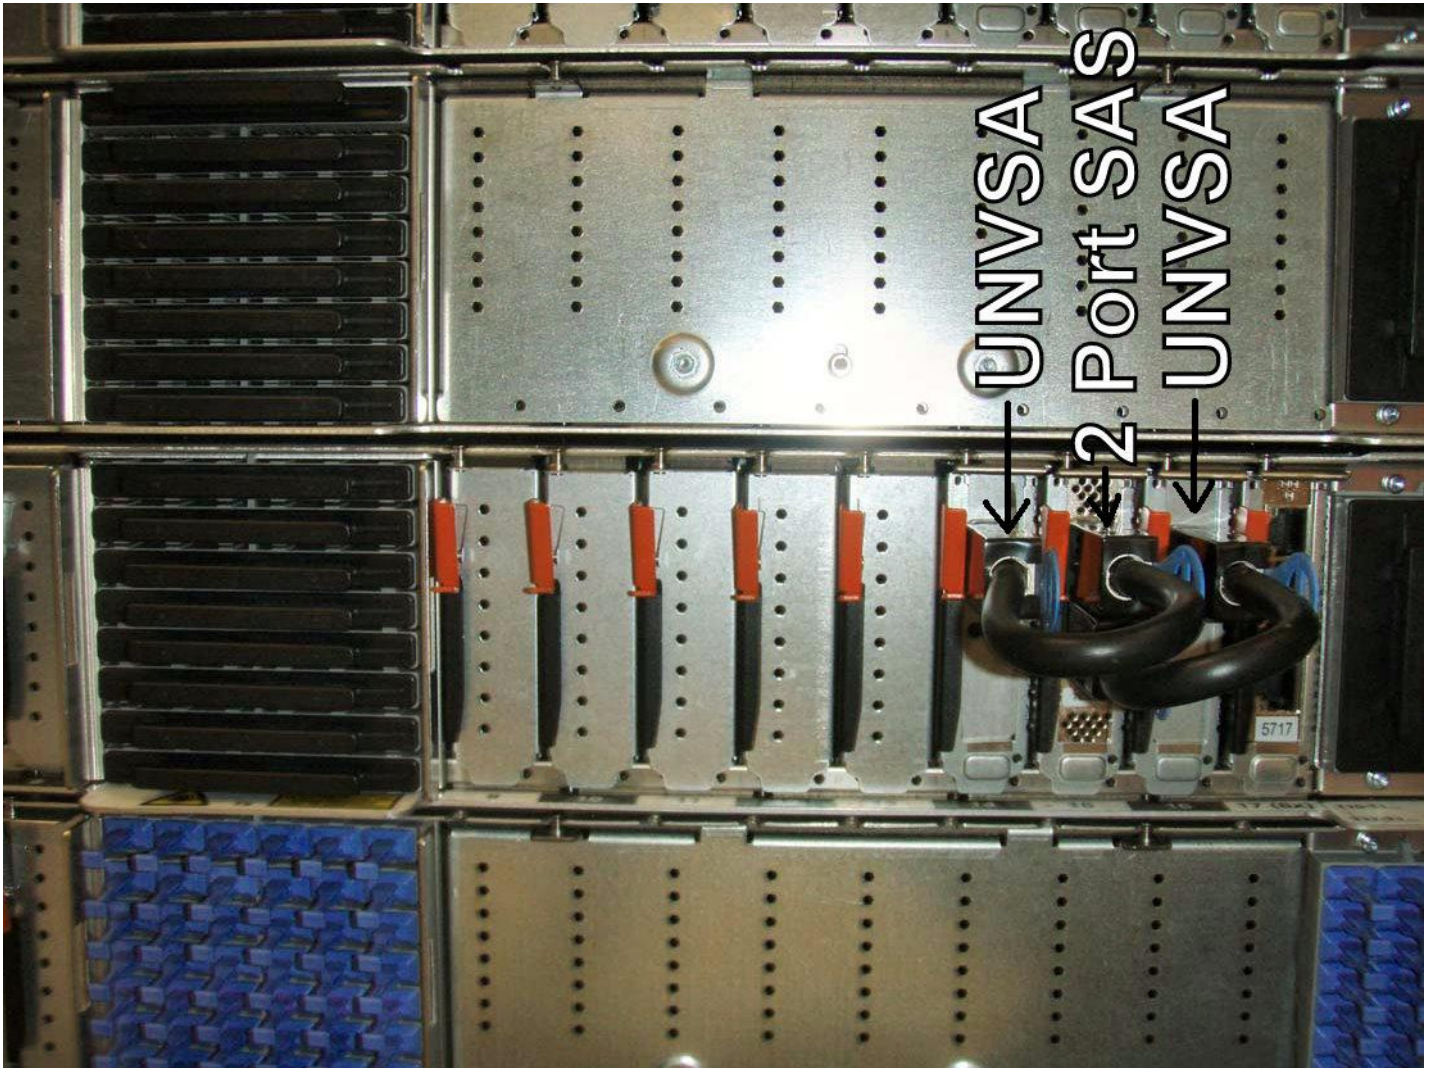

Figure 4 Service Node configuration
STEP 3 Determine if the CEC Drawer contains the Service node, see Figure 4 . If it does, have the system administrator reassign the nodes supported by the Service Node to the backup service node. (A CEC Drawer with a Service node will have a UNVSA card (usually 2 as shown below) and a 2 port SAS card plugged its PCI slot(s) (the UNVSAs are normally plugged into PCI slots 14 & 16, the SAS card in slot 15, but may be in any 3 locations in the CEC Drawer) . If the CEC Drawer has one of its octants functioning as a Service node, all the CEC Drawers being supported by the Service node must be reassigned to the backup Service node in the building block before powering the CEC off.)